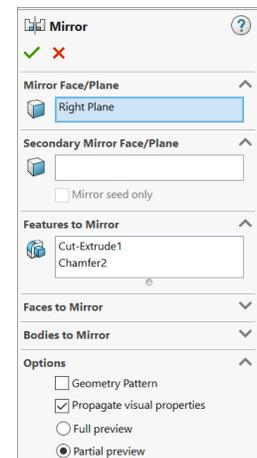

Fig. 38
Step 3. In the Mirror Property Manager click **OK** , **Fig. 38**.